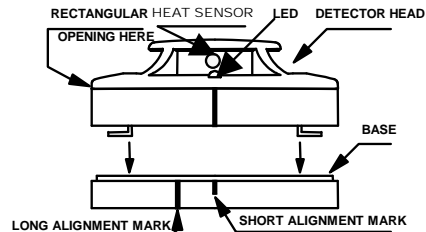

Fig. 2 Mating detector head onto base
- Align the components as shown in Figure 2.